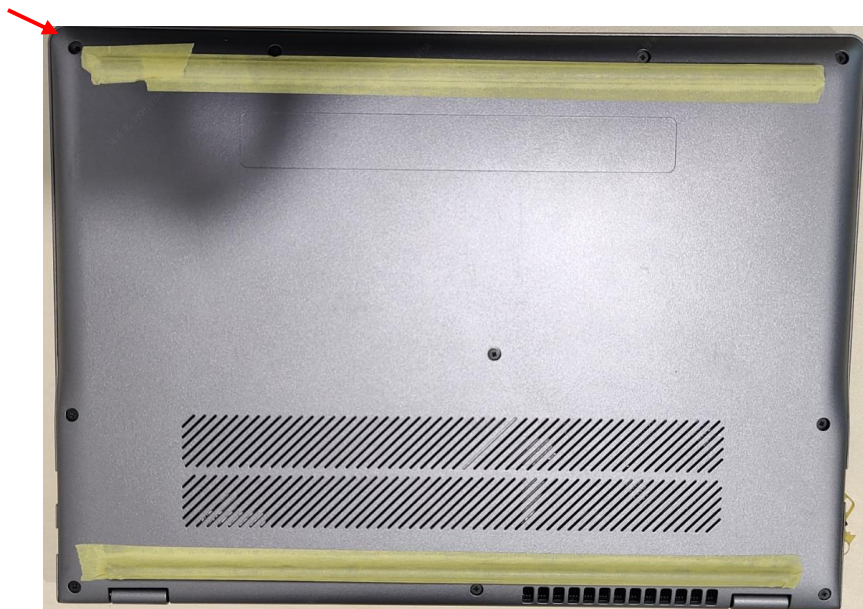

Figure 3-4. Base Cover Removal
2. Carefully pry up the base cover starting from the upper side to release the latches. Then continue releasing the remaining latches on the left, right, and bottom sides (Figure 3-4).